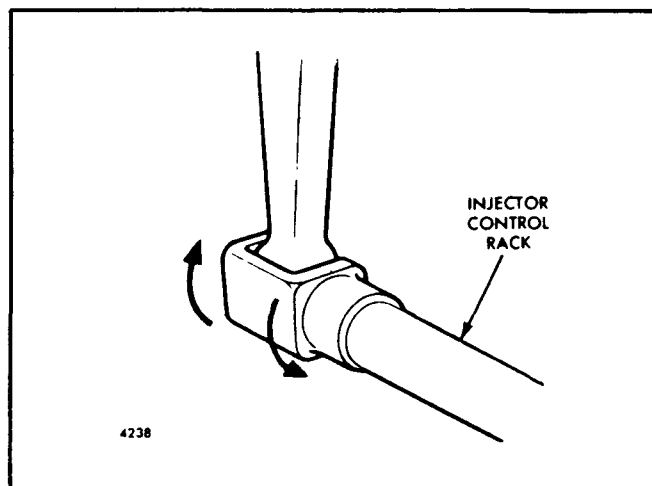
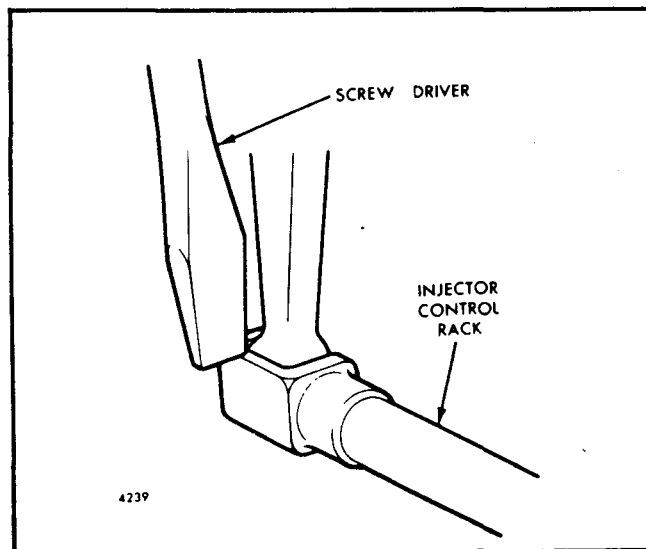

Fig. 5 - Checking Rotating Movement of Injector Control Rack
Fig. 6 - Checking Injector Control Rack "Spring"
8. To be sure of the proper rack adjustment, hold the speed control lever in the maximum speed position and press down on the injector rack with a screw driver or finger tip and note "rotating" movement of the injector control rack (Fig. 5). Hold the speed control lever in the maximum speed position and, using a screw driver, press downward on the injector control rack. The rack should tilt downward (Fig. 6)